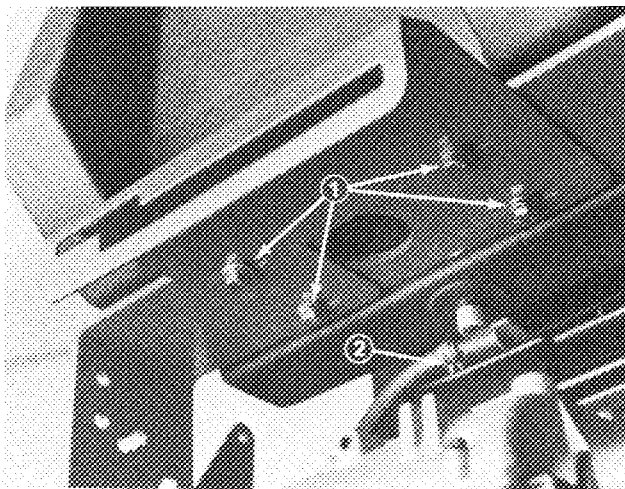

Figure 2
3. Secure fuel line to tank fitting with hose clamp (Fig. 2).
3. Move shift lever to reverse and 4th gear. Control panel mounting holes are slotted to enable it to be moved from side to side (Fig. 2). Position control panel as needed to achieve full shift range. Tighten mounting screws to a maximum of 90 in. lb. **DO NOT OVERTIGHTEN.**